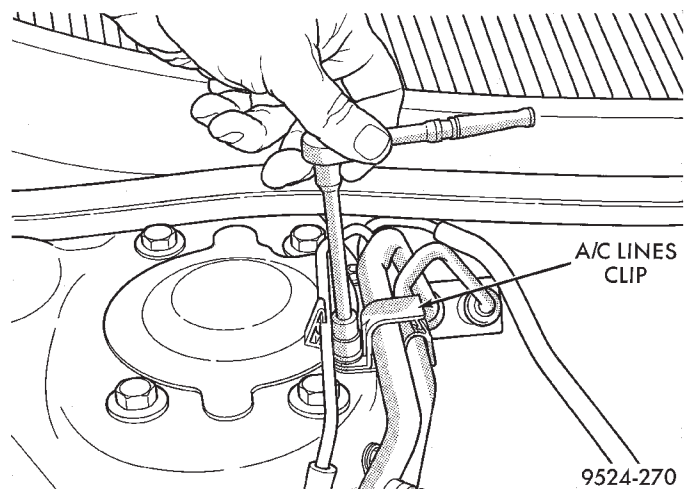

Fig. 70 Suction Line Routing Clip
- (1) Remove refrigerant from the A/C system using a refrigerant recovery machine.
- (2) Remove suction line clip at right strut tower (Fig. 70).